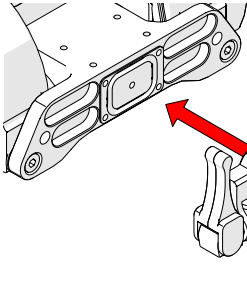

Fig. 48 - Install with driver
1. Attach the pivot mount to the **TRIPOD** using the provided 3 mm hex driver (Fig. 48).